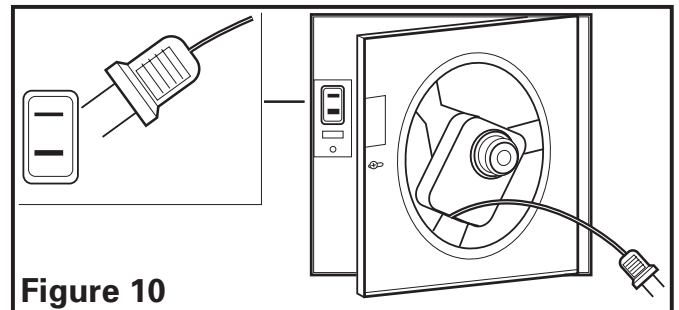

Figure 10
1. Reinstall the fan's venturi by holding it at approximately a 45 degree angle, hook the two tabs on the venturi into the slots on the housing and secure in place by tightening the venturi screw. Rotate the blower wheel by hand to ensure it spins freely. Now plug the fan motor into the receptacle (Figure 10).